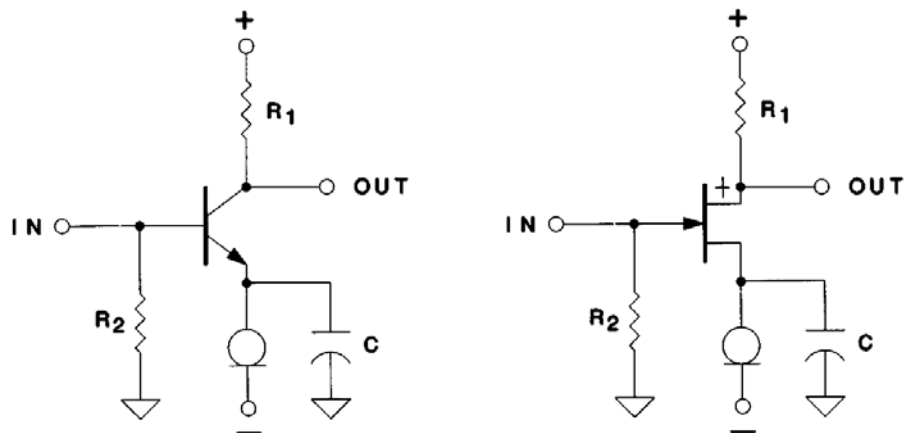

Figure 7. Emitter/Source Biasing
**Emitter/Source Biasing**—The CLD can replace the usual emitter and source bias resistor (Figure 7), improving negative supply rejection.